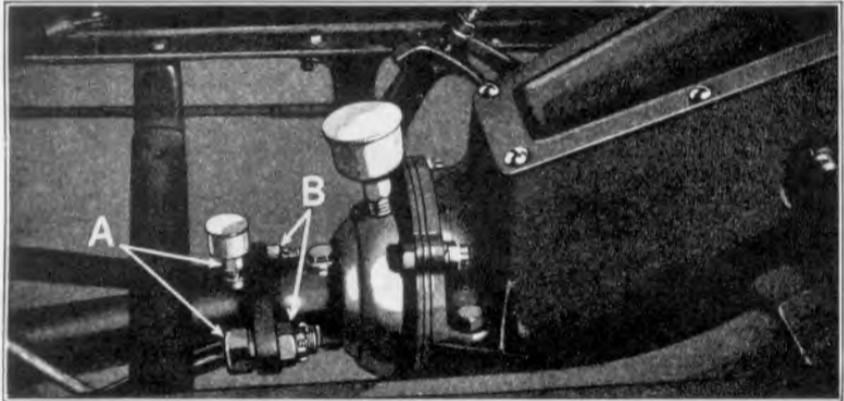

Fig. 359
- 642 Loosen radius rod lock nuts (See "A" Fig. 359).
- 652 Run down radius rod castle nut sufficiently far to permit entering cotter pin (See "B" Fig. 359). This assures correct alignment of rear axle. Draw down radius rod lock nuts tightly against universal joint housing (See "A" Fig. 359).